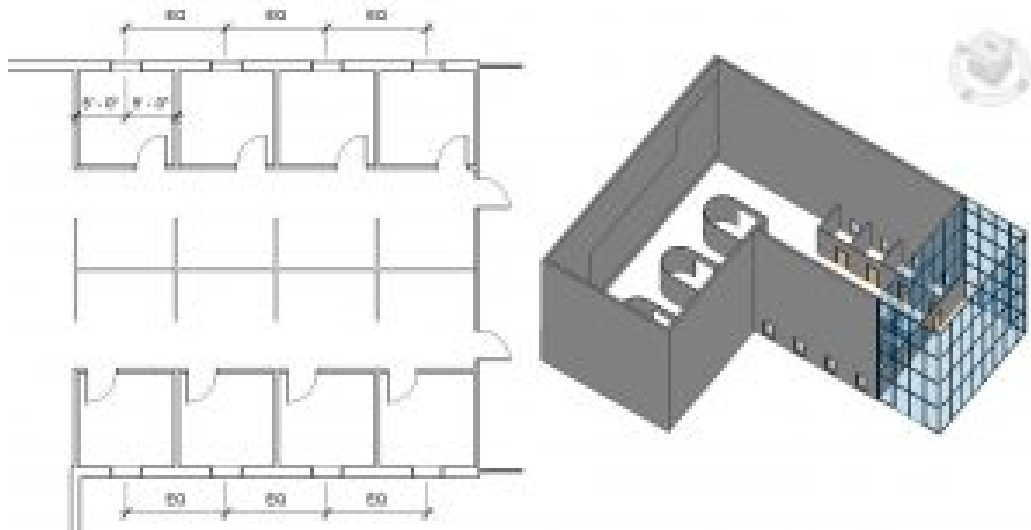

Figure 2.36 Placed windows in plan view and in 3D view
4. Click to place the windows as shown in Figure 2.36